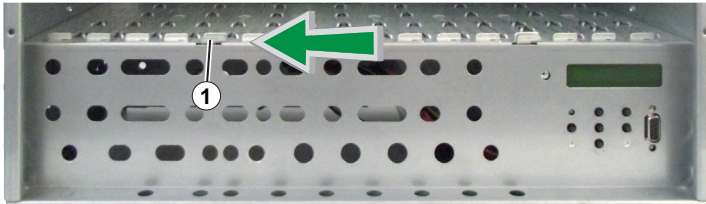

Fig. 2
- Open the locking device (1) in the direction of the arrow (fig. 2).